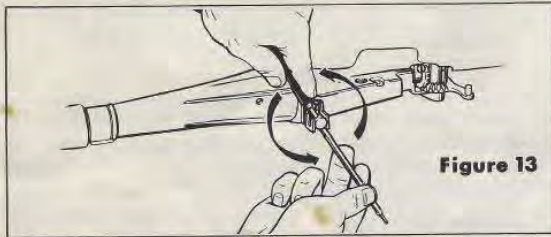

Figure 13
3. Insert speed control cable vertically into bracket and turn to horizontal position as indicated by arrow. See Figure 13.